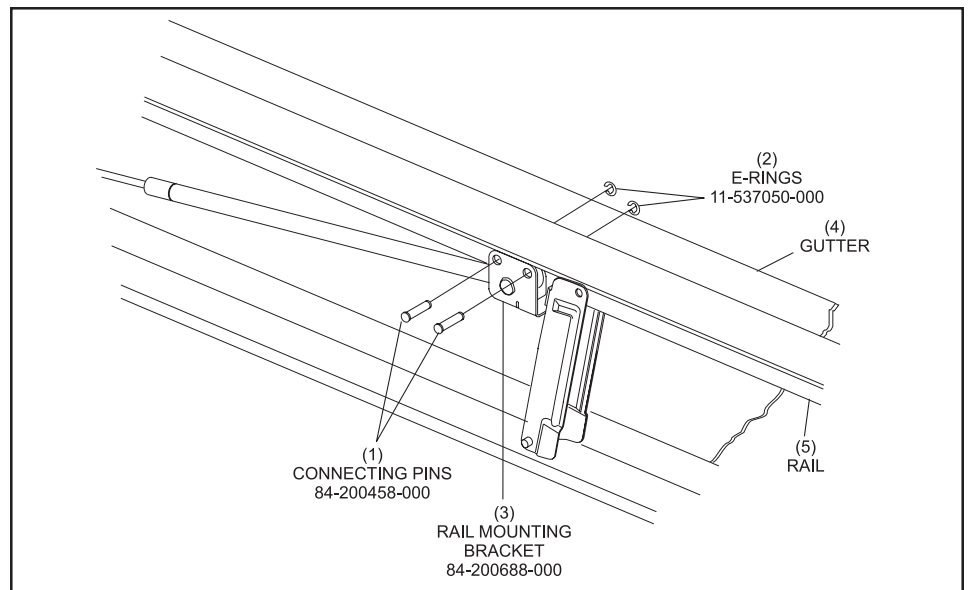

Figure 9. Rail Mounting Bracket Installation
- Attach the rail mounting bracket and gas spring assembly to the bumper rail with (2) connecting pins, 84-200458-004, and (2) E-Rings, 11-537050-000. The E-Rings should be on the gutter side of the rail, not the lane side. Refer to *Figure 9*.